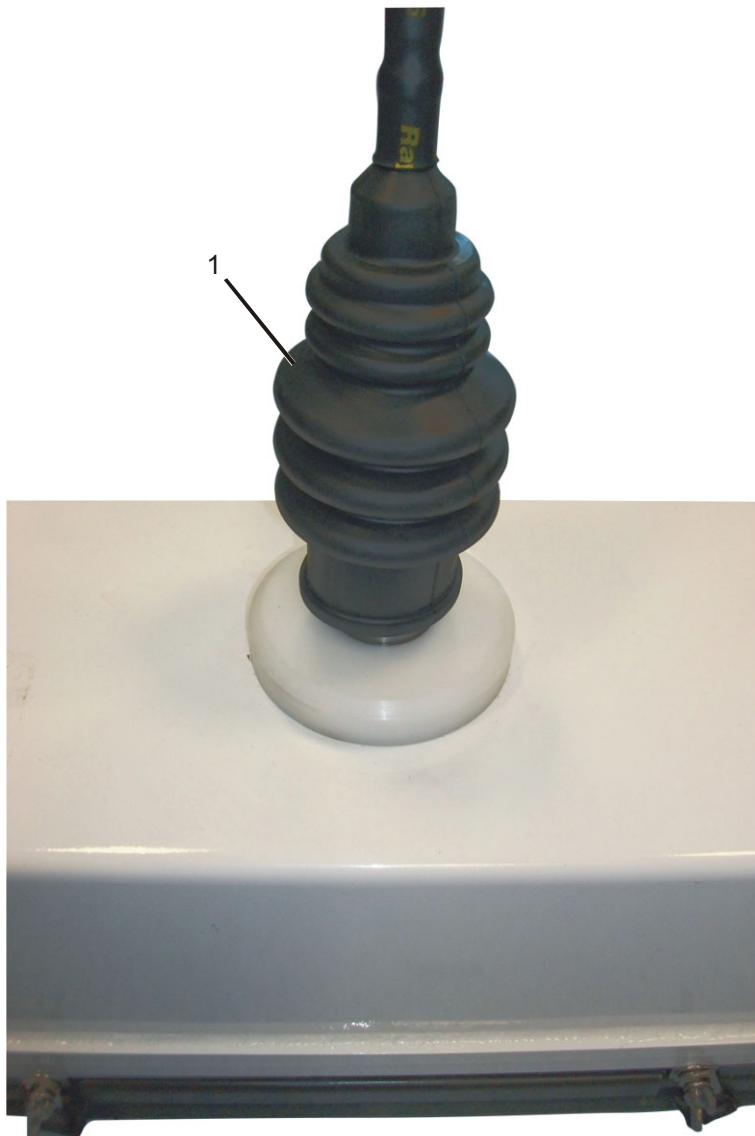

Figure 2-10. Antenna Installation 3
2.2.2.4 Antenna Installation (See Figure 2-8 to Figure 2-10)
- d. Pull down the antenna cover (1) over the spring to protect the connection (see Figure 2-10).